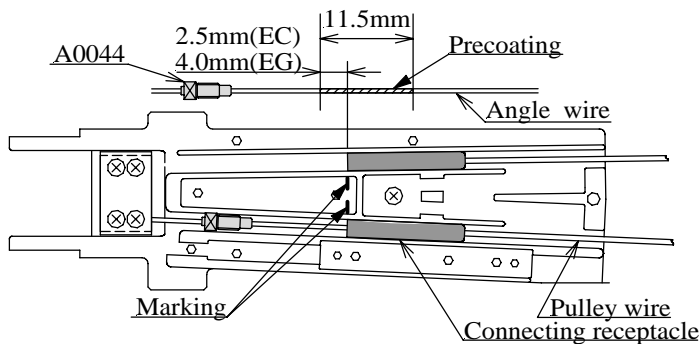

Fig.4-2-4
- f) Holding 2-connecting receptacles, mark two lines on the Control Body as shown in Fig.4-2-4.
- h) Apply thin coat of solder using small amount of SS-FLX on the wire position as shown in Fig.4-2-4.